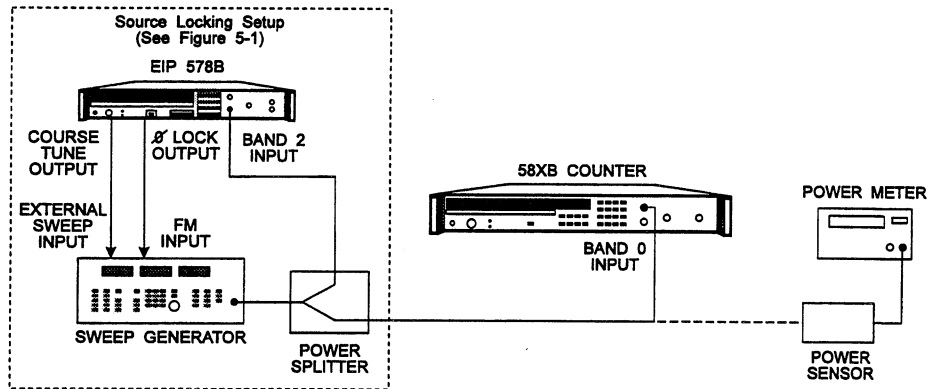

Figure 5-3. Band 0 Range and Sensitivity Test Setup (100 MHz to 250 MHz).
1. Connect equipment as shown in Figure 5-3.